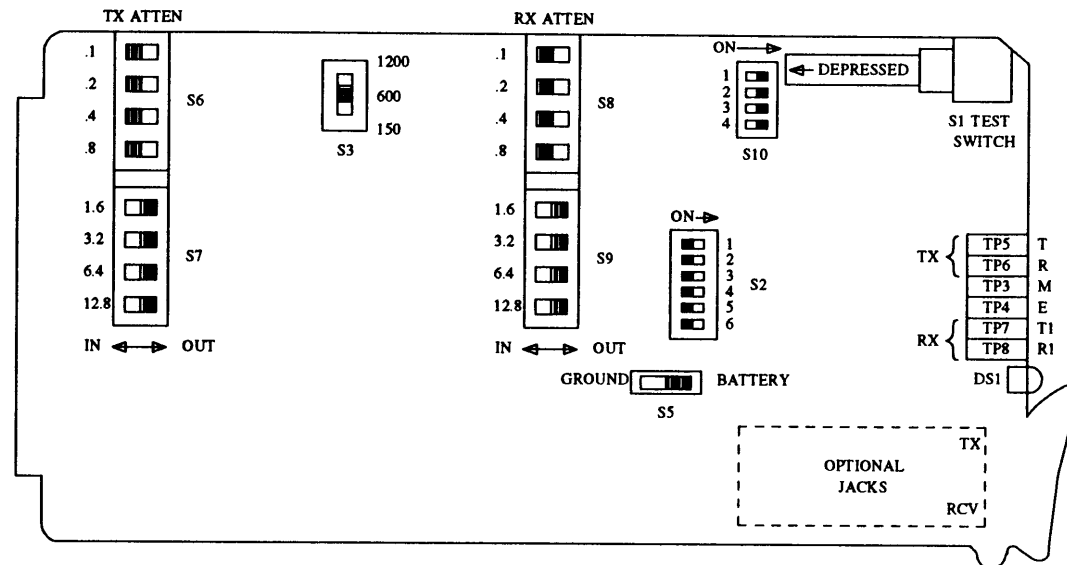

Figure 31-7. 30044-0024-Wire E&M Channel Unit Switch Location
- For No. 30044-002 (figure 31-7), insert a 1004-Hz signal at the proper system level into the channel. Connect a dB meter (600 ohm bridged) to TP5 and TP6. Set switches S6 and S7 as required to obtain a meter reading of +.84.
- b. For No. 30044-002 (figure 31-7), connect a dB meter (600 ohm bridged) to TP7 and TP8. From a distant end transmitter, transmit a 1004-Hz signal at the proper system level. Set the switches on S8 and S9 to achieve the proper system level.